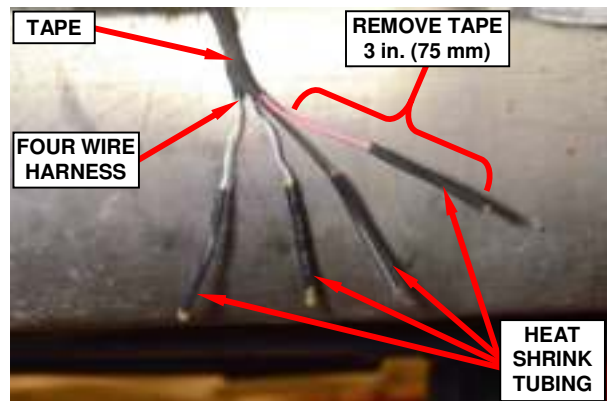

Figure 5 – Seal Wire Ends
8. Remove approximately 3 in. (75 mm) of tape from the remaining four wire harness pigtail to expose the four cut wires (Figure 5).
9. Use the wire sleeve kit heat shrink tubing to seal all four cut wires (Figure 5).